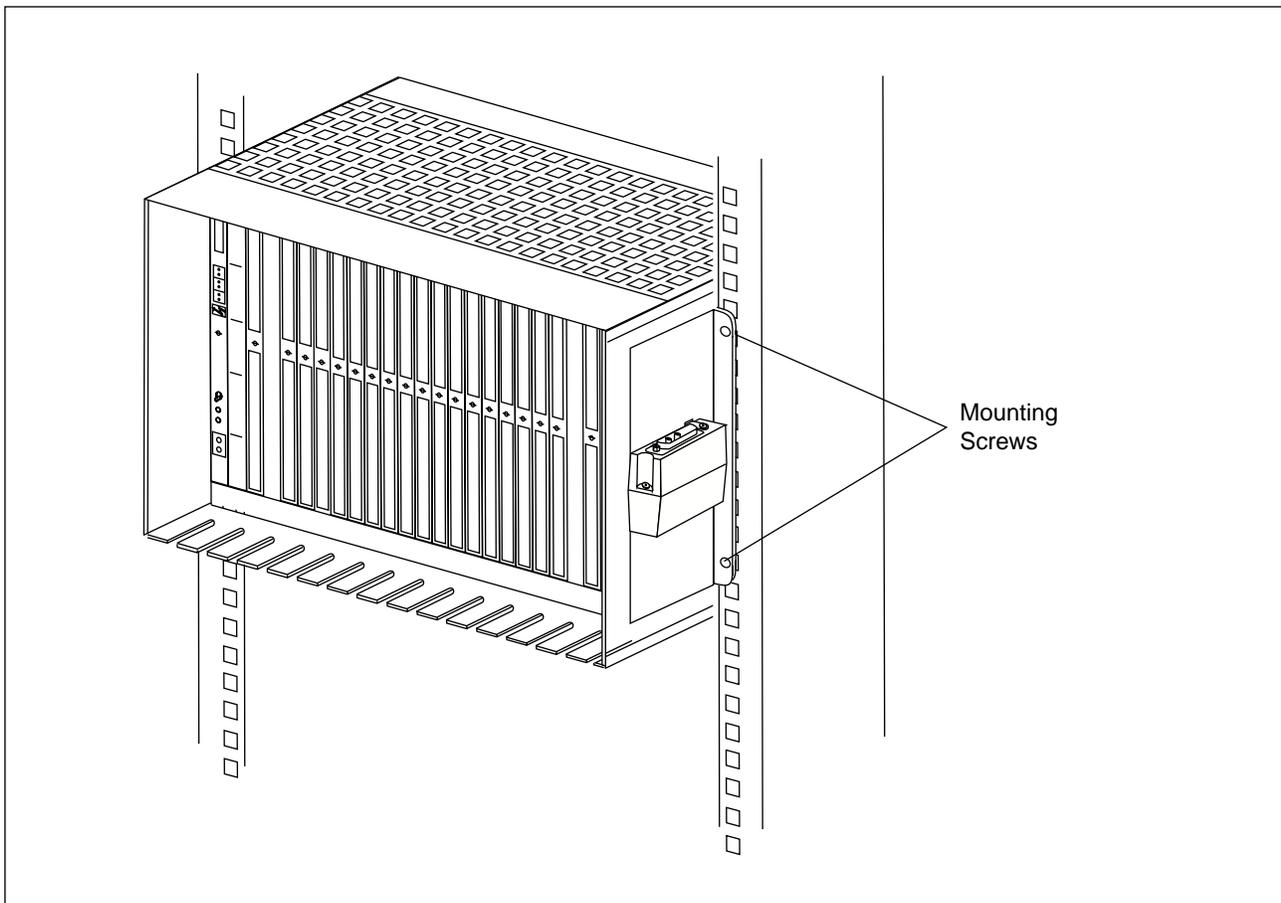
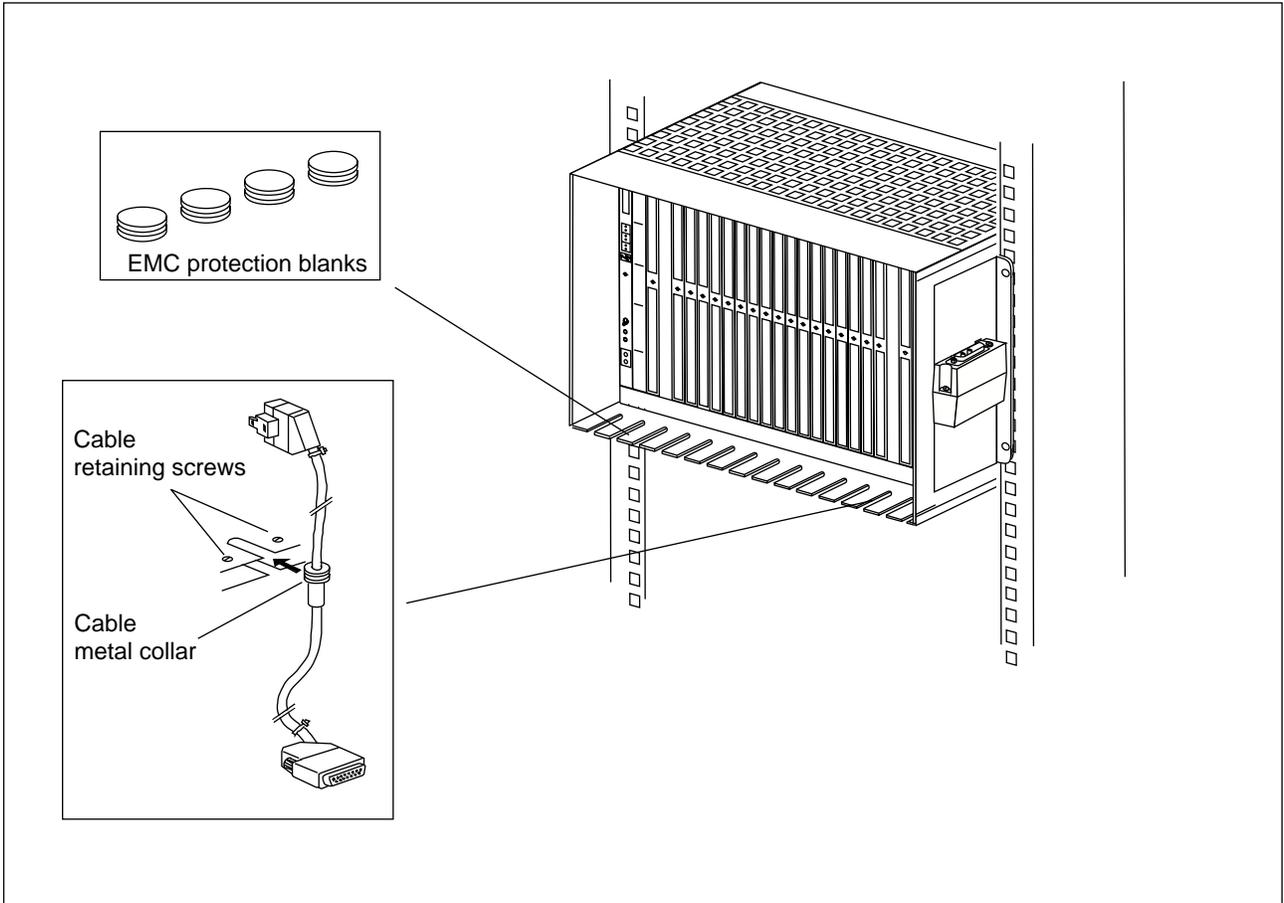

Figure 6-4. Rack-Mount CRI Magazine
Figure 6-5. CRI Magazine – Cable Removal
Note: The cable retaining screws on the CRI magazine must be loosened before removing the cables, as shown in Figure 6-5 on page 6-20.
13. When replacing a CRI magazine, refer to Figure 6-4 on page 6-18 and Figure 6-5 on page 6-20. Remove the replacement CRI magazine from the packaging material.
22. Insert the cable metal collars in suitable ground slots (Figure 6-5 on page 6-20).
- DC/DC (1) green Power LED is ON
- DC/DC (1) red Error LED is OFF
- DC/DC (2) green Power LED is ON
- DC/DC (2) red Error LED is OFF